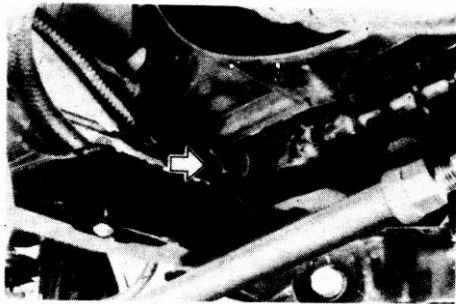

Fig. 28 Drain valve of radiator
1) Unscrew the radiator cover, open the drain valve at the bottom of the radiator (Fig.28), to drain out the coolant.